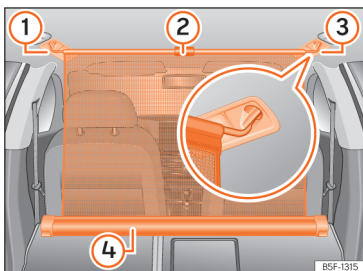

Fig. 187 In the boot: net partition hooked into the rear seat backrests.
- Pull up handle >>> **Fig. 187** ② to remove the net from the casing ④.
- Hook in the net partition on the right or left side >>> **Fig. 187** ③ (magnified image).
- Hook in the net partition into the housing on the other side >>> **Fig. 187** ① by pulling the rod.
The net partition is properly assembled when the T-shaped ends are firmly secured in the corresponding housings >>> **Fig. 187** ③ and ①.
- Roll up the net into the casing >>> **Fig. 187** ④ lowering it with your hand.